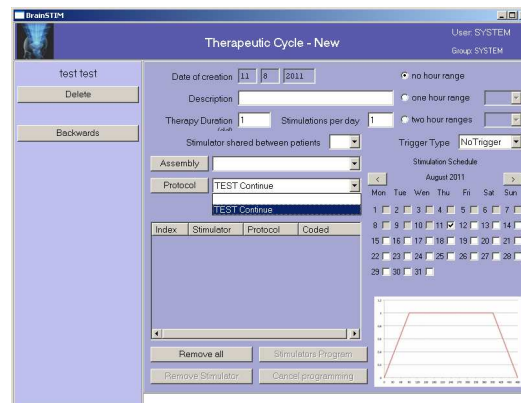

Figure 10 – Choosing parameters
*Protocols* – to choose the protocol, open the drop-down menu by clicking on the down key, then choose a protocol from those on the list (fig. 10). Once you have selected a protocol a window will open to the side (white box), representing the waveform you have chosen in diagram format. Press the “Add” button and the protocol will be entered and shown in the central window. Moreover, clicking on the “Protocols” button activates the function for searching for and creating new protocols.